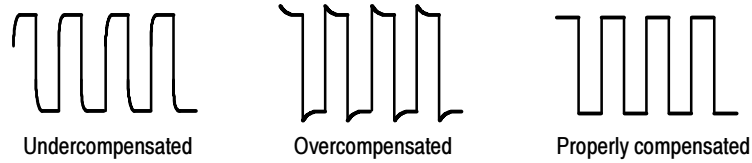

Figure 3: Probe compensation waveforms
3. Adjust the trimmer in the probe (accessible through the compensation box) until you see a square wave with perfectly flat top on the display. See Figure 3 on page 3.